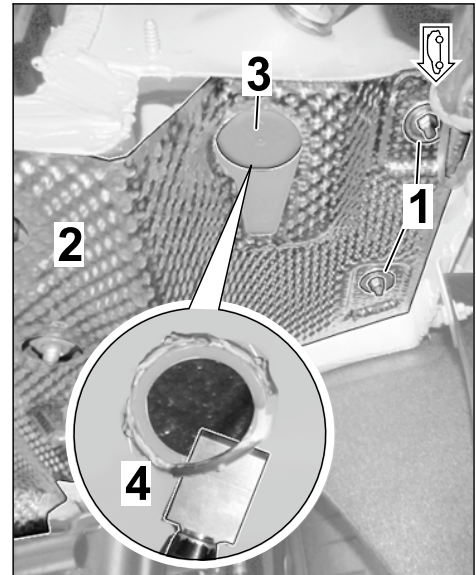

Figure 10
1.3.6 Detach heat shield in the rear muffler area – at the right (⇒ *Figure 10*) and bend it down slightly.
- 3 (2) – Dummy plug
- 4 (3) – Filler
1.3.7 Remove dummy plug on underbody and de-burr using a spatula (⇒ *Figure 10-inset-*).